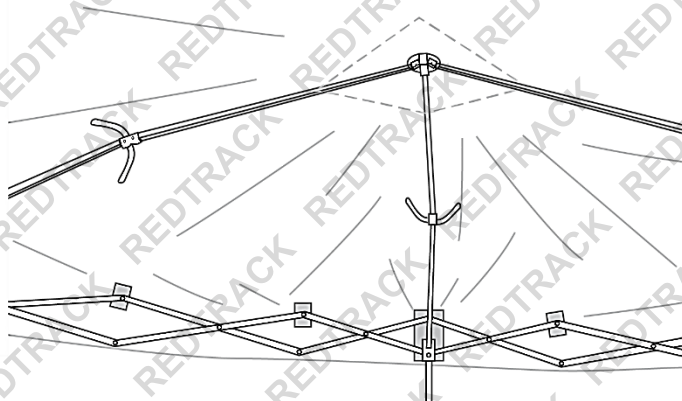
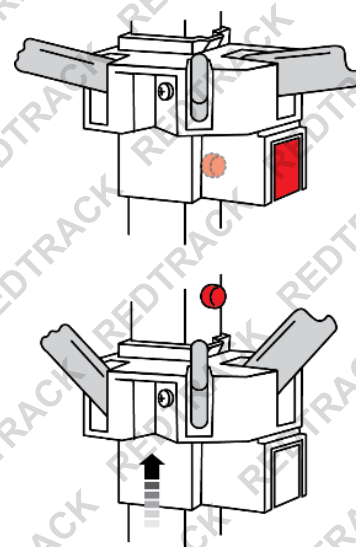

Fig 5 - Roof Frame when Expanded (Partial View from Inside)
Fig 6 - Tube Lock, Location Pin and Release Button
5. At each leg, secure the top part of the frame to the leg tube – hold the upper section of the leg firmly and slide the roof frame up the leg until the tube lock location pin (shown in red) locks into the tube lock (Fig 5 and Fig 6). When properly assembled, the location pin will be pushing the back of the release button (shown in red)
Disassembly is a reverse of the assembly procedure. Always take care during disassembly to ensure that the canopy does not get caught in the frame or is otherwise damaged. Note that to release the canopy frame from the top of each leg, press the tube lock release button (Fig 6, shown in red) then gently lower the frame over the leg.